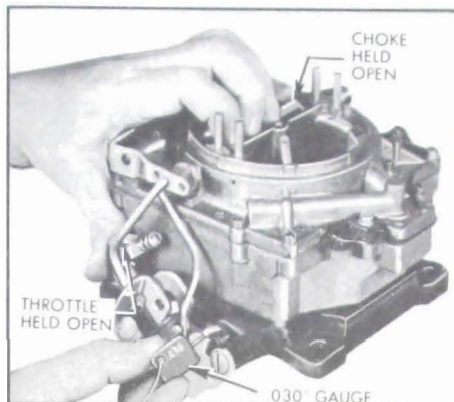

Figure 3-61—Checking Secondary Contour Adjustment
7. Secondary Contour Adjustment. Fully open choke valve so that fast idle cam falls to its lowest position. Then open throttle so that secondary lock-out tang follows contour portion of fast idle cam. With choke held wide open, check clearance between lock-out tang and contour portion of cam, using .030" Gauge. See Figure 3-61.